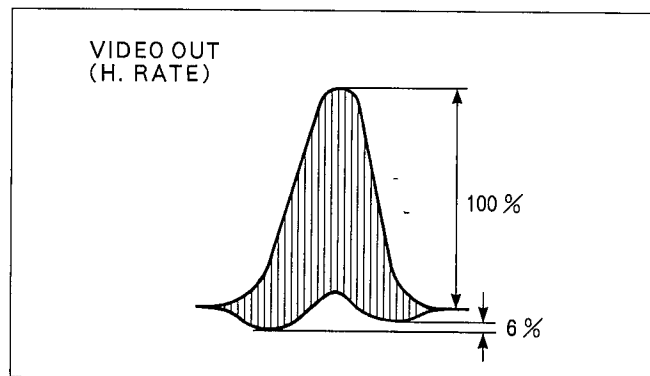

Figure E34
SPEC.	100nsec \pm 50nsec (FIG. E34)
3. Adjust VR3205 so that the waveform becomes as shown in Figure E34.
3. Adjust VR3204 so that the waveform becomes as shown in Figure E34.
4. Adjust VR9403 and SW3921 so that the waveform becomes as shown in Figure E34.